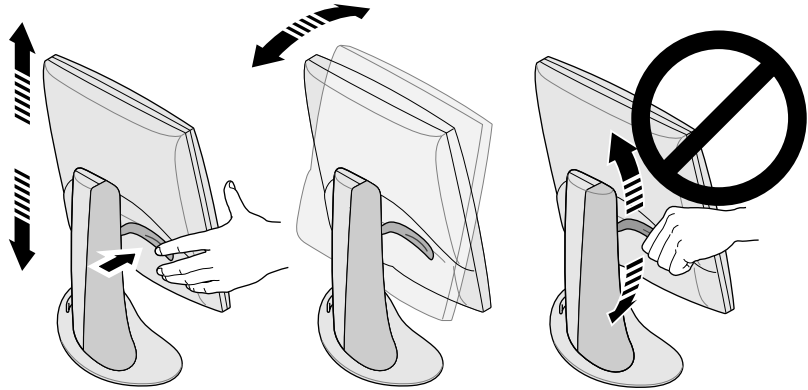

Figure 1-3 Adjusting the Height and Tilt
2. Raise the monitor to its highest position. This makes it easier to remove the screws. See Figure 1-3.